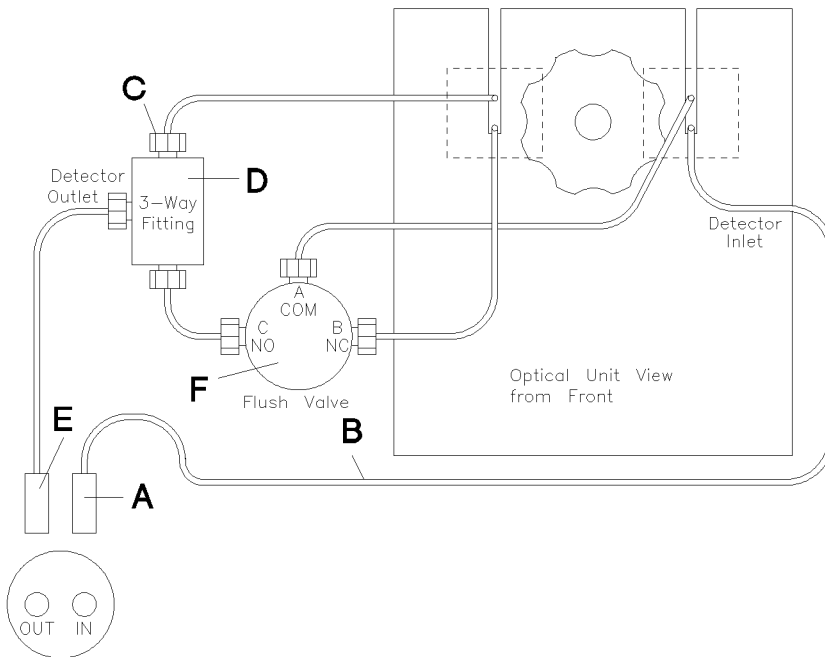

Figure 3-5. Flush Valve Plumbing
Re-connecting these tubes incorrectly will destroy the flow cell! Refer to Figure 3-5 for correct plumbing.
4. **Important:** If the flush valve is incorrectly plumbed, the detector flow cell may be destroyed! Make sure that the flush valve is plumbed according to the diagram in Figure 3-5:
If the flush valve is incorrectly plumbed, the detector flow cell may be destroyed. Make sure the flush valve is plumbed according to Figure 3-5, in *Flush Valve Replacement*.
Important: Incorrect plumbing may destroy the flow cell! Make sure that the flow path is plumbed as shown in Figure 3-5.
Important: Incorrect plumbing of the flow path may destroy the flow cell! Make sure that the flow path is plumbed as shown in Figure 3-5.